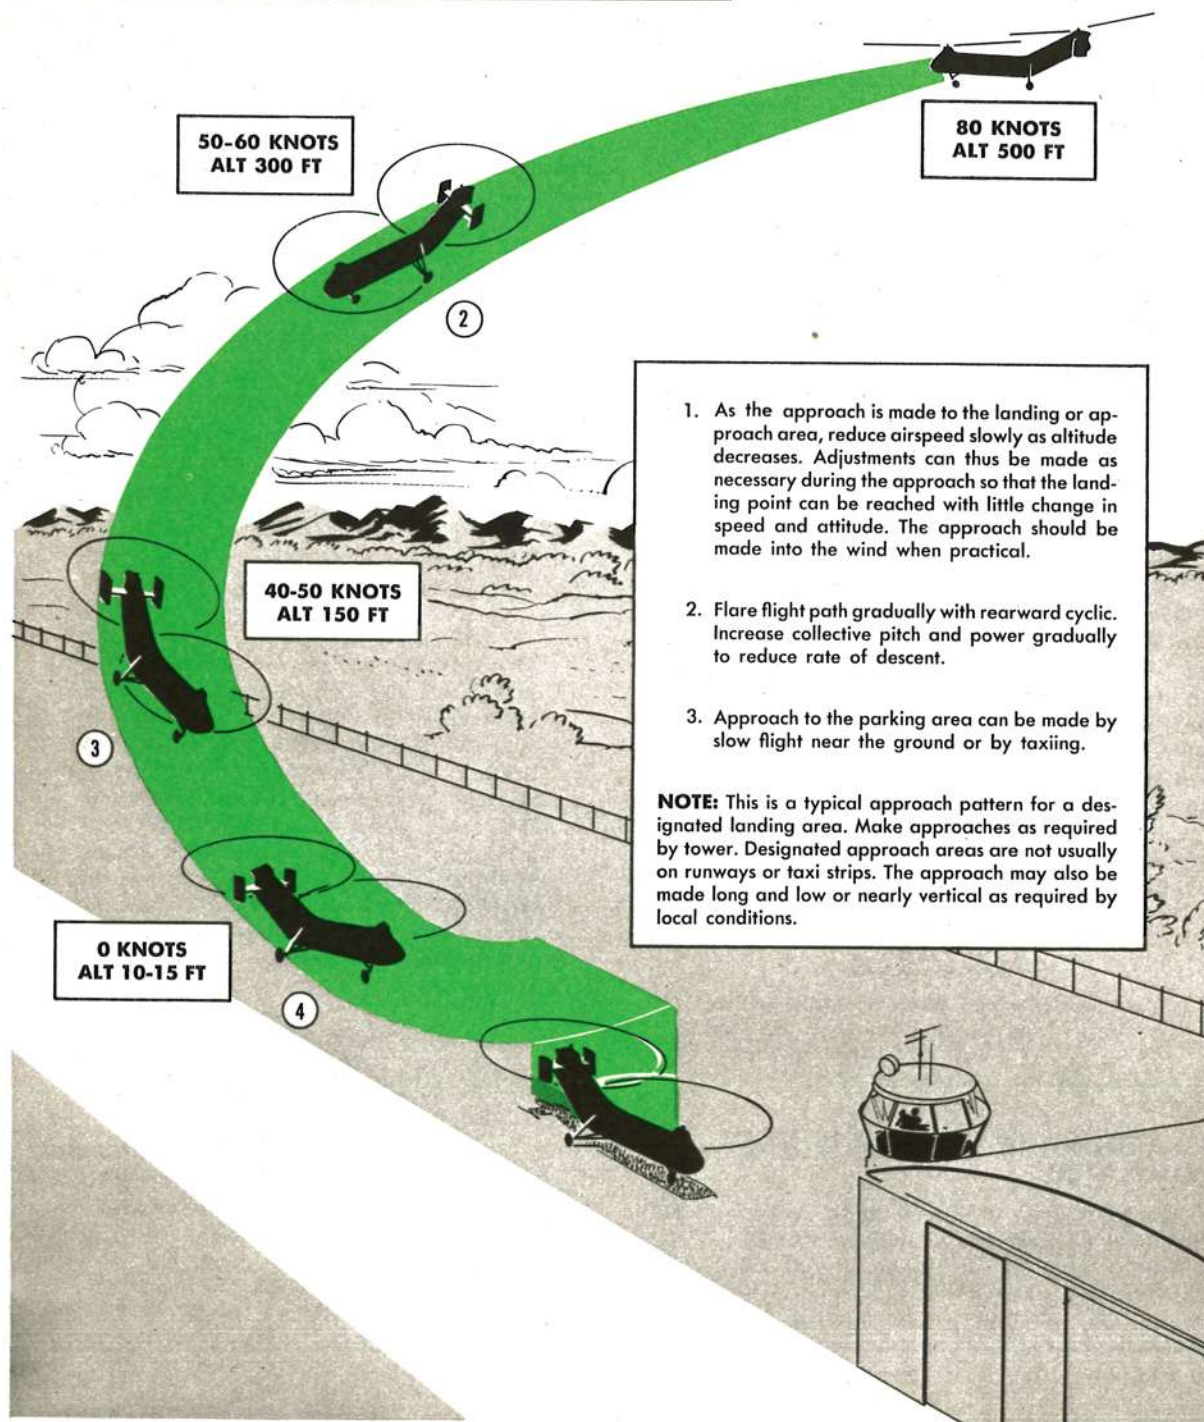

Figure 2-3
Accomplish power-on glides by reducing collective pitch for the desired rate of descent (figure 2-3), being careful to maintain a safe rotor speed (green line on rotor tachometer indicator).
1. Airspeed: Reduce to zero gradually as ground is approached (figure 2-3).